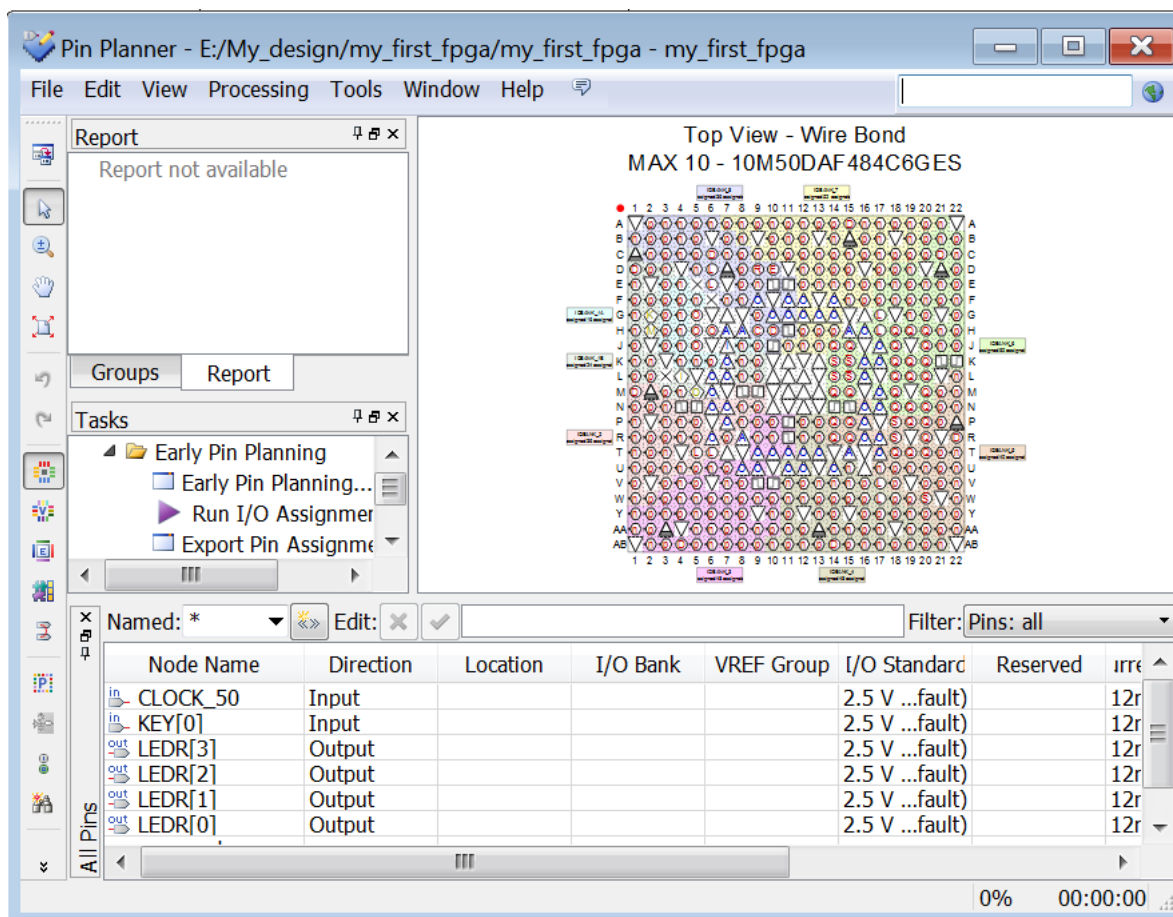

Figure 3-29 Pin Planner Example
1. Choose Assignments > Pins Planner, which opens the Pin Planner, a spreadsheet-like table of specific pin assignments. The Pin Planner shows the design’s six pins. See **Figure 3-29**